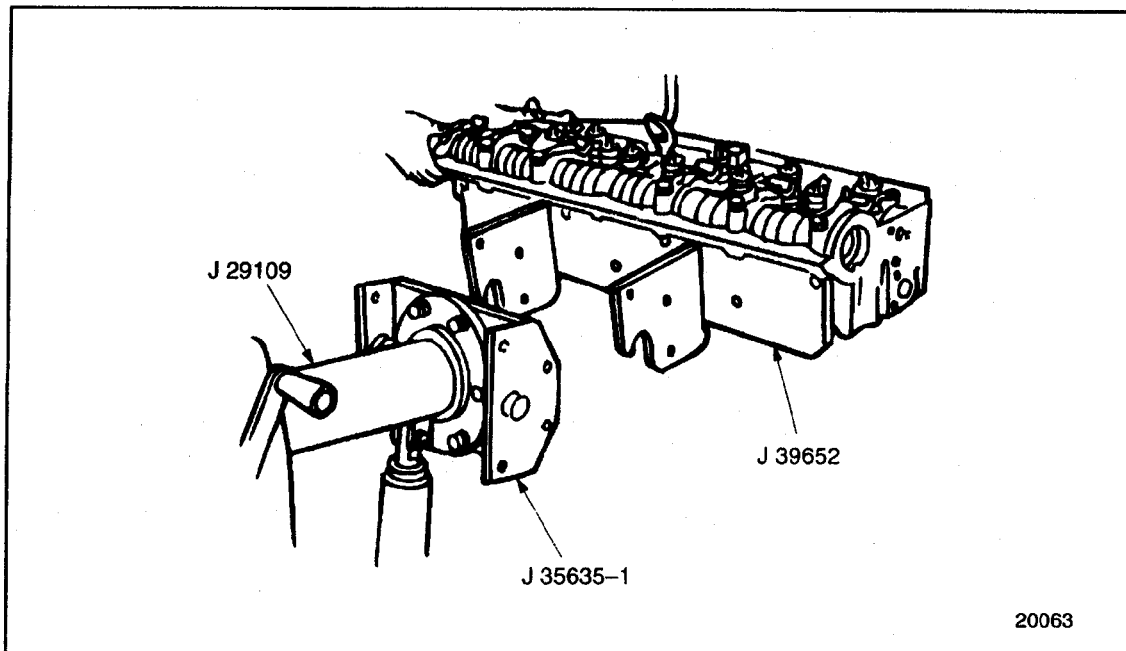

Figure 1-68 Engine Overhaul Stand
1. Bolt the engine overhaul stand adaptor, J 35635-A, to the engine overhaul stand, J 29109, using the hardware provided with the adaptor. See Figure 1-68.
2. Bolt the cylinder head adaptor plate, J 35636-A, to the cylinder head using the bolts provided with the adaptor. See Figure 1-68.